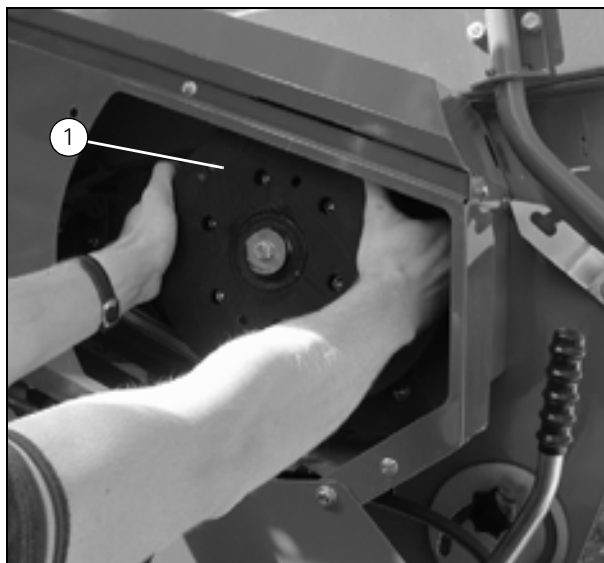
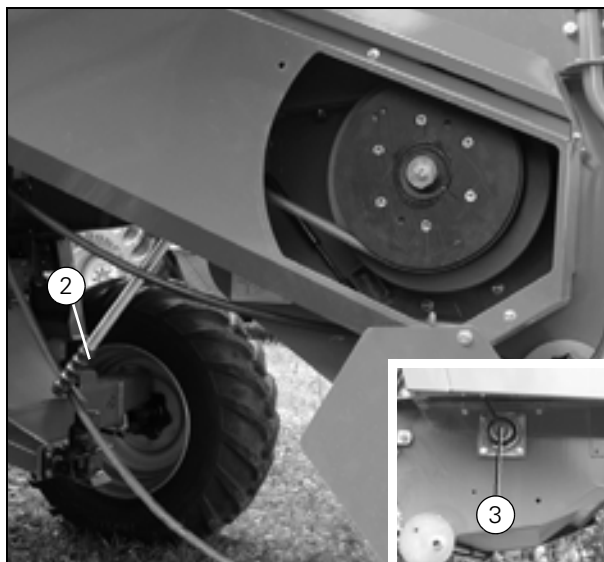

Fig. 19
Fig. 20
(Fig. 19) and (Fig. 20)
3. Pull the rear clutch disk outward so that it engages with the belt pulley (1) as shown in (Fig. 19).
4. Pull the lever (2) back to open the flap in the straw hood allowing the straw to fall into the straw chopper